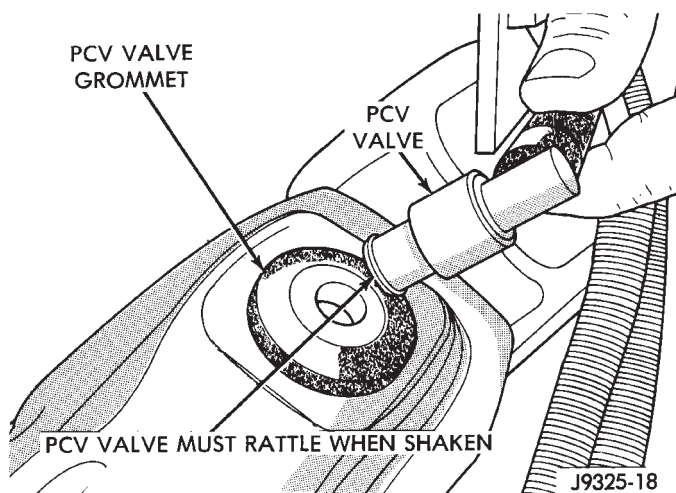

Fig. 15 Shake PCV Valve—Typical
(3) The paper should be drawn against the opening in the cylinder head (valve) cover with noticeable force. This will be after allowing approximately one minute for crankcase pressure to reduce.
(4) Turn engine off and remove PCV valve from cylinder head (valve) cover. The valve should rattle when shaken (Fig. 15).